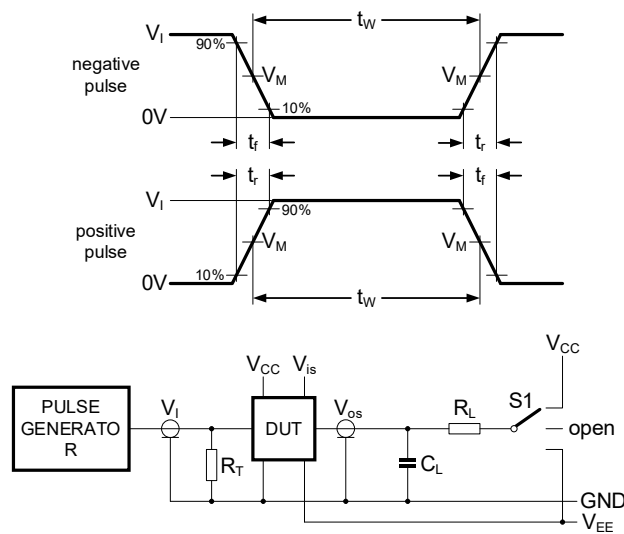

Figure 8-11 Test circuit for measuring switching times
- (6) For test circuit see Figure 8-11.
- (7) V_{is} is the input voltage at a nYn or nZ terminal, whichever is assigned as an input.
- (8) V_{os} is the output voltage at a nYn or nZ terminal, whichever is assigned as an output.
- (1) All typical values are measured at T_{amb}= 25°C.
- (2) t_{pd} is the same as t_{PHL} and t_{PLH}.
- (3) t_{on} is the same as t_{PZH} and t_{PZL}.
- (4) t_{off} is the same as t_{PHZ} and t_{PLZ}.
- (5) For test circuit see Figure 8-11.
- (6) V_{is} is the input voltage at a nYn or nZ terminal, whichever is assigned as an input.
- (7) V_{os} is the output voltage at a nYn or nZ terminal, whichever is assigned as an output.